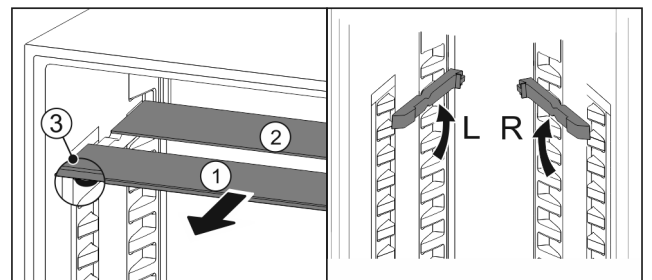

Fig. 99
- ▶ Pull the glass panels out Fig. 99 (1) from the front, one at a time.
- ▶ The glass panel Fig. 99 (1) and trim strip are at the front.
- ▶ The stops Fig. 99 (3) point down.